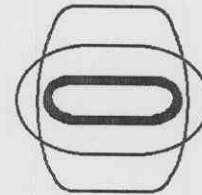

Figure 1-12. Bite protector.
(2) *Bite protector (fig 1-12).* A plastic bite protector, placed into a patient's mouth during bronchoscopic procedures, will prevent the patient from inadvertently biting the shaft.